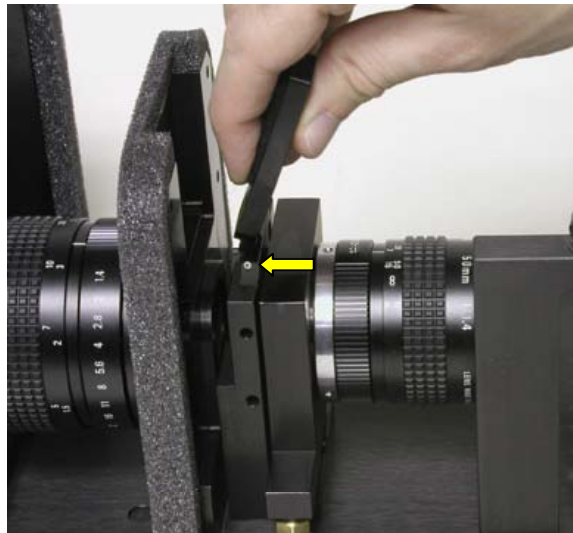

Figure 4.3. Removing the slit. The arrow indicates the slit-locking setscrew.
1. Loosen the slit-locking setscrew (Figure 4.3) using a 0.035" Allen key.
2. Orienting the tool as shown in Figure 4.3, place the hole in the tool over the round locating pin near the top of the slit.